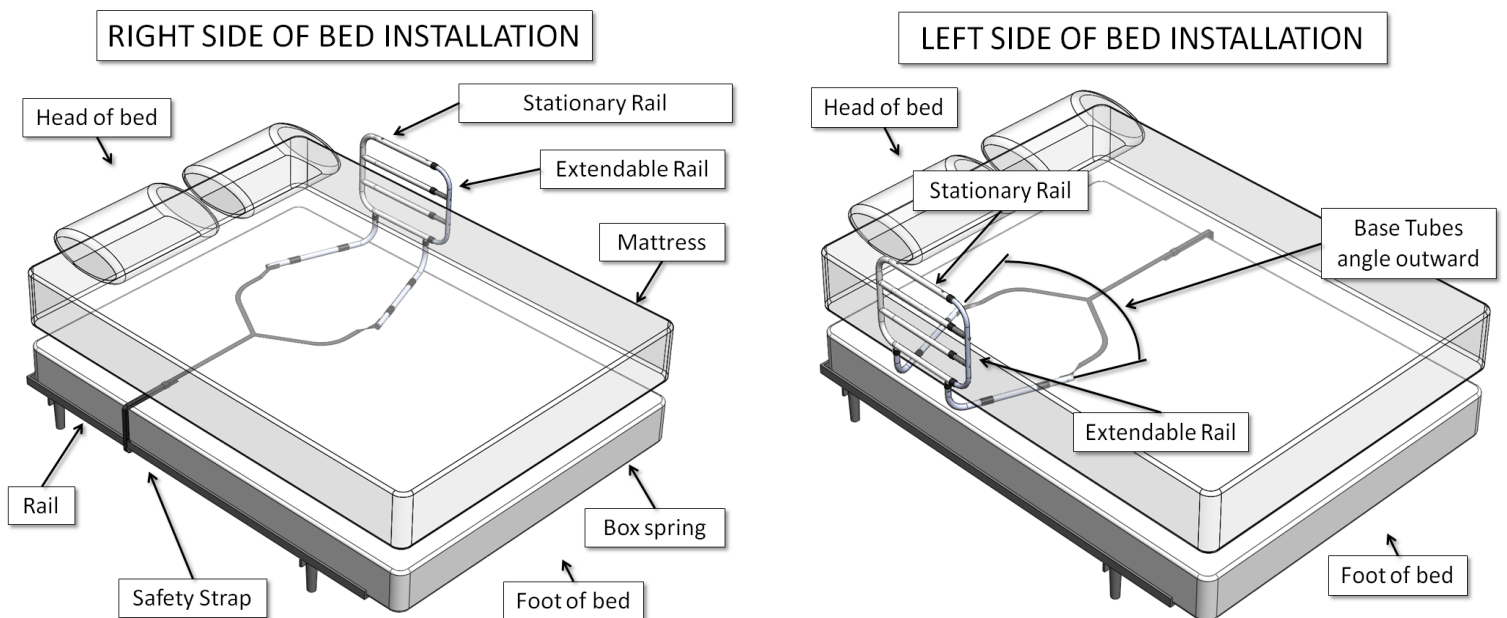
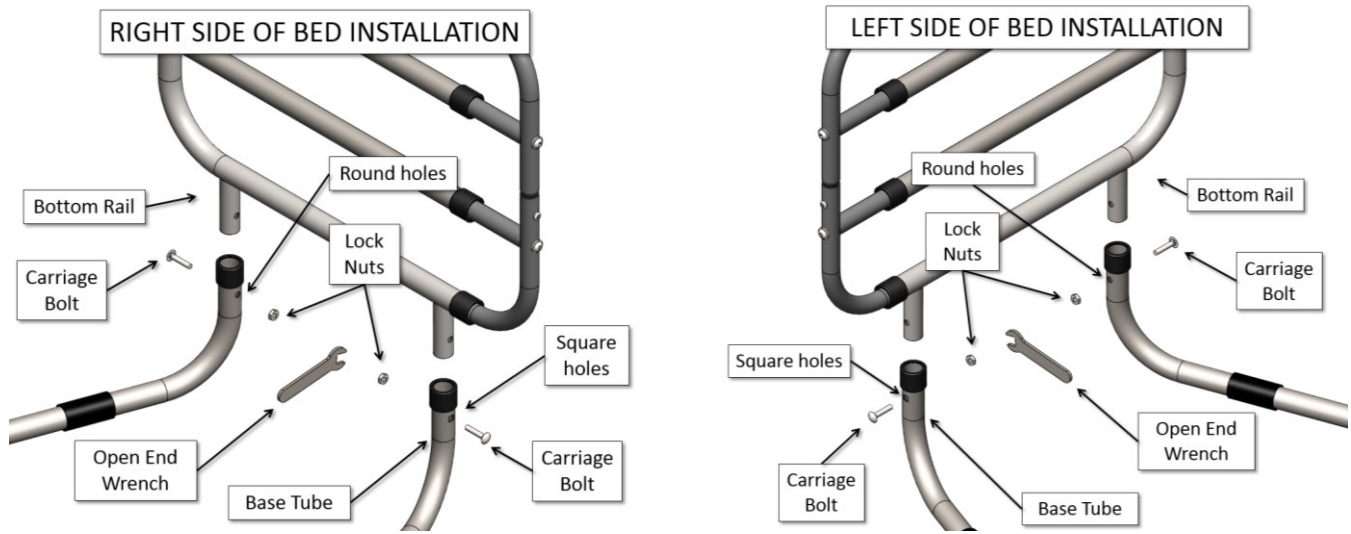

Figure 3
Figure 4
3. **IMPORTANT:** The Base Tubes can be assembled 2 different ways depending on which side the bed the product will be used. Determine which side of the bed you will be installing the product as shown in Figure 3 and then attach the Base Tubes as shown in Figure 4.
- When assembled, the Base Tubes are angled outward as seen in Figure 3.
- Bolts are inserted into the square holes and exit through the round holes as shown in Figure 4.
Using the included Open End Wrench, insert Bottom Rail into the Base Tubes and secure with Carriage Bolts and Lock Nuts as shown in Figure 4.